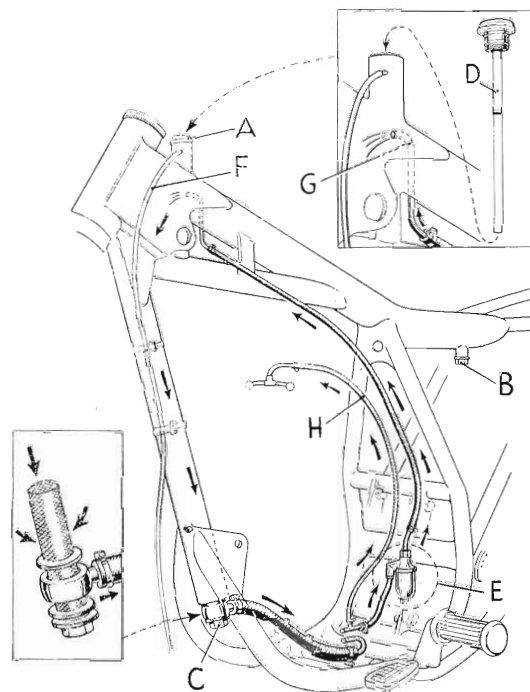
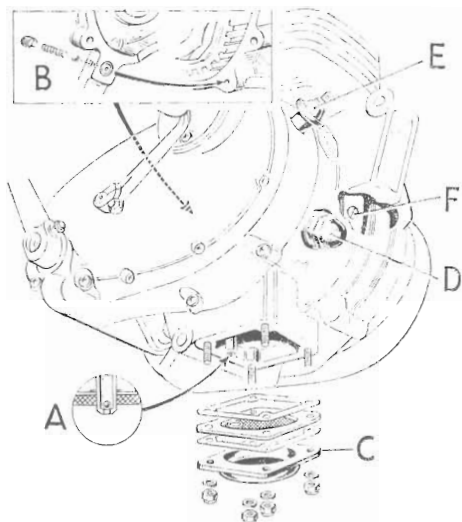

FIGURE 7.
FIGURE 8. The engine lubrication system showing the ball valves (the oil pressure switch is fitted to 250 cm³ engines only).
The lubrication system is of the dry sump type and is operated by a double gear-pump situated in the bottom of the crankcase on the right-hand side. Oil is drawn from the reservoir by the supply pump and is then delivered past the non-return valve (B) FIG. 8, through a duct in the mainshaft to the big-end.
After lubricating the motor, the oil drains through a filter to a small sump in the bottom of the crankcase, from which it is drawn by the scavenge pump past the non-return valve (A) FIG. 8, and delivered to the oil reservoir. If the filler cap (A) FIG. 7, is removed while the motor is running, the returning oil should be seen issuing from the pipe (G) FIG. 7, below the filler neck. The flow of oil will in all probability contain air bubbles, but this is a normal condition due to the larger capacity of the return pump. IF THERE IS NO FLOW FROM THE PIPE, STOP THE MOTOR IMMEDIATELY AND INVESTIGATE THE CAUSE (see "Pump Ball Valve", page 18).
A by-pass pipe (H) Fig. 7, leads a supply of oil to the rockers, push rod ends, etc.
The valve (B) Fig. 8, prevents oil transfer from the reservoir to the crankcase while the machine is not in use and, together with the flywheel centrifugal filter (F), does not require attention until such time as the motor is completely dismantled.
A by-pass valve (D) Fig. 8, limits the pressure in the lubricating system, excess quantities of oil being returned by the scavenge pump to the reservoir. This valve should not be removed until the motor is dismantled for servicing.
OIL PRESSURE SWITCH (250 cm³ models only) — (E) Fig. 8
This should preferably be carried out immediately after running when the oil is warm and will, therefore, flow more freely. Remove the filler cap (A) Fig. 7. Unscrew the drain plug (B), at the base of the oil reservoir, for which purpose it will be necessary to remove the right side panel and the battery (except Moto-cross models). Next, unscrew the filter (C) at the lower end of the front down tube, collecting the oil in a suitable receptacle. Clean the filter (see below) and replace, together with the drain plug.
The oil capacity is 4¾ U.S. pints (4 British pints) and the normal level is given on the dipstick (D) Fig. 7, attached to the filler cap.
The crankcase filter is retained by the sump plate (C) Fig. 8, which is released following removal of four nuts of the self-locking type. If worn or damaged they must be replaced by similar nuts.
The main filter (C) Fig. 7, is unscrewed from the bottom of the front down tube. It is essential that the fiber washers are fitted when the filter is replaced and that the filter itself is securely tightened.
An external oil filter E is fitted in the oil return line from the crankcase to the reservoir, Fig. 7, and is located behind the engine. It must be dismantled for cleaning at the same time as the above filters and for this purpose the bowl must be withdrawn.
The crankcase breather pipe (emerging from the timing case, near the clutch cable) and the oil reservoir breather pipe (F) Fig. 7, must be examined regularly and maintained clear of any obstruction.
When the crankcase filter is removed for cleaning, it is a good opportunity to check the ball valve (A) Fig. 8, carried in the pump suction pipe. The ball must be free on its seating. If the ball adheres to its seating, there will not be a return flow of oil to the reservoir and the crankcase may become flooded. Alternatively, if the crankcase contains an excessive quantity of oil this may be due to the ball not seating properly caused by a particle of foreign matter so allowing oil to pass through the pump to the crankcase when the motor is stationary.